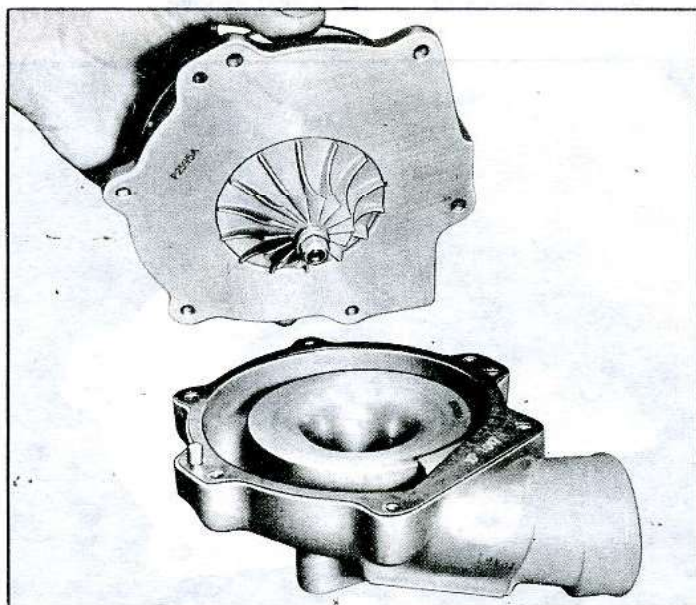

Fig. 39—Removing Compressor Housing
1. Remove the six bolts that secure the compressor housing to the bearing housing, then remove the compressor housing and gasket (fig. 39).